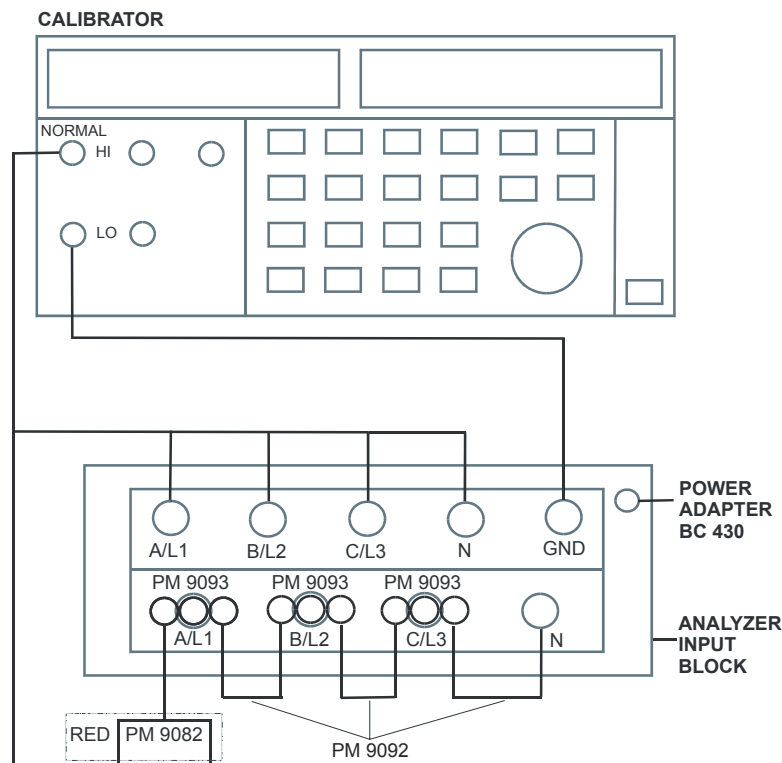

Figure 3-2. verification of Current Inputs
3. Connect the LO output (black) with the Ground (green) input of the Analyzer. Connect the HI output (red) with all current (BNC) inputs and the A/L1, B/L2, C/L3, and N voltage banana inputs of the Analyzer. Refer to Figure 3.2.